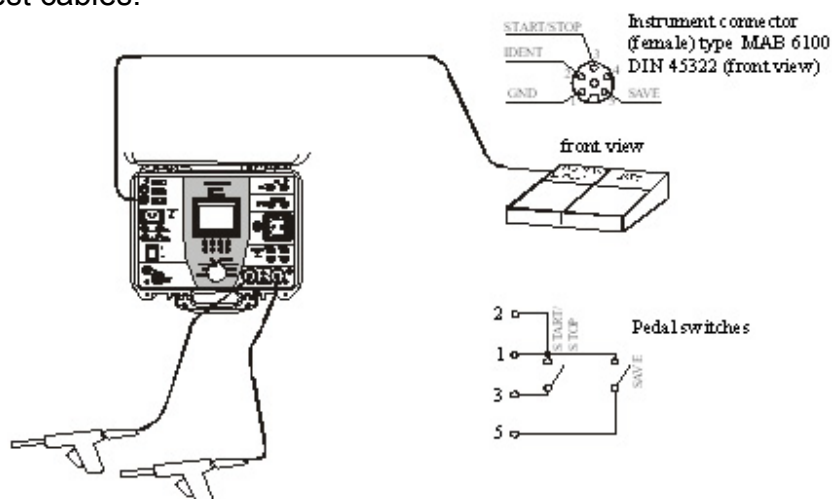

Fig. 56. Connection of remote control pedal to CE MultiTester
- STEP 1.** Connect REMOTE CONTROL pedal to the instrument as it is shown in fig.56 and carry out the measurement by pressing START/STOP pedal.